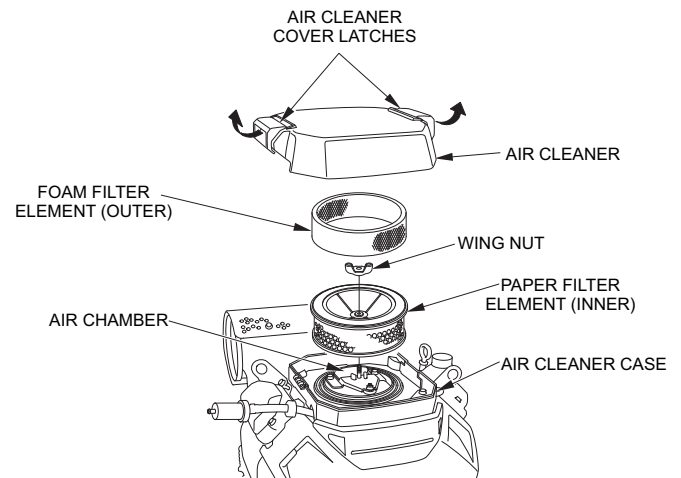

Figure 27. Air Filter Components
1. Release the latch tabs (Figure 27) on each side of the air cleaner cover and remove the cover.